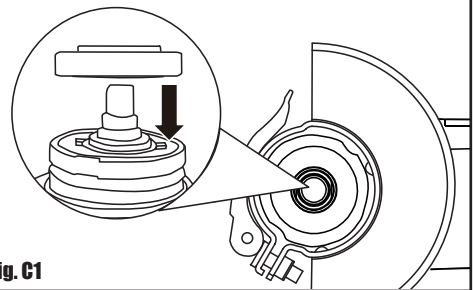

Fig. C1
Put the inner flange (11) onto the tool spindle. Ensure it is located on the two flats of spindle (See Fig. C1).